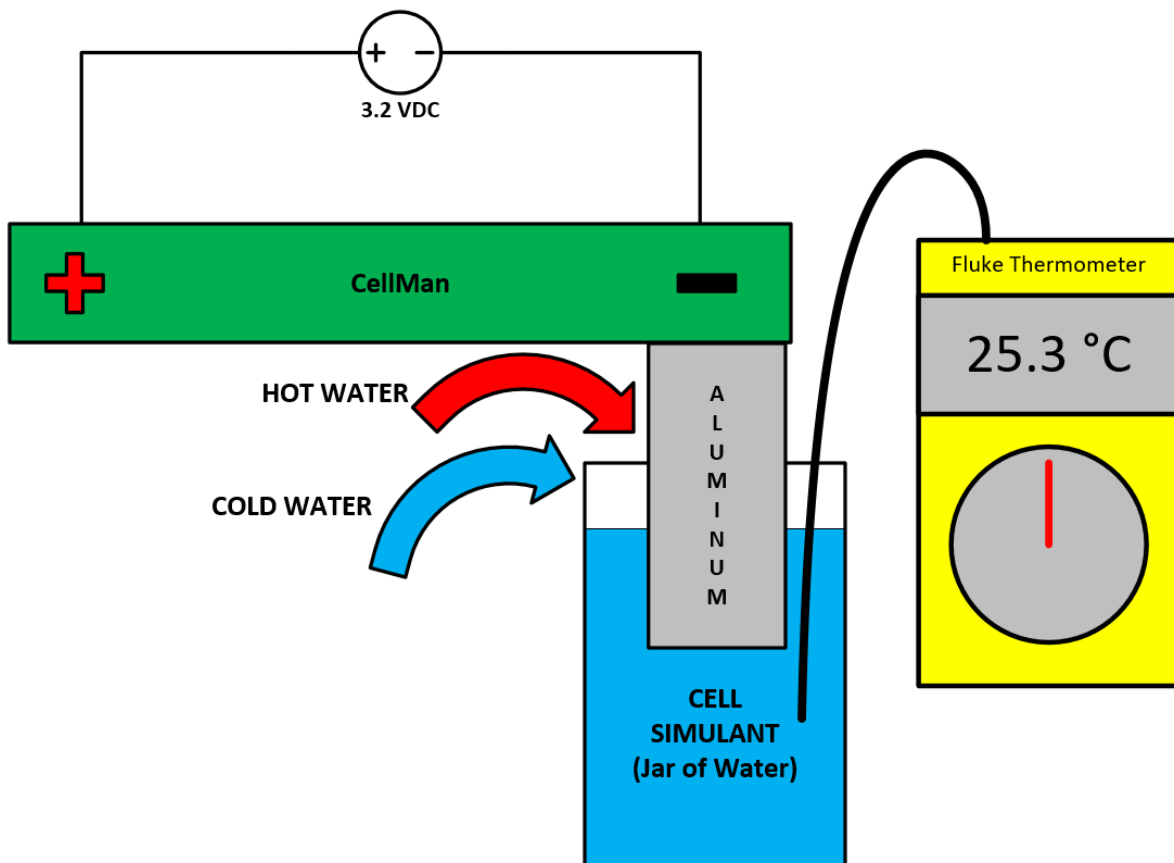

Figure 2 - TSV Prototype CellMan Configuration for Temperature Measurement Testing
- Summary: Measure 3 CellMan temperatures on SCADA with the AMS with cell temperatures at ambient room temperature and near 40 °C and 60 °C. Set up each CellMan according to Figure 2.